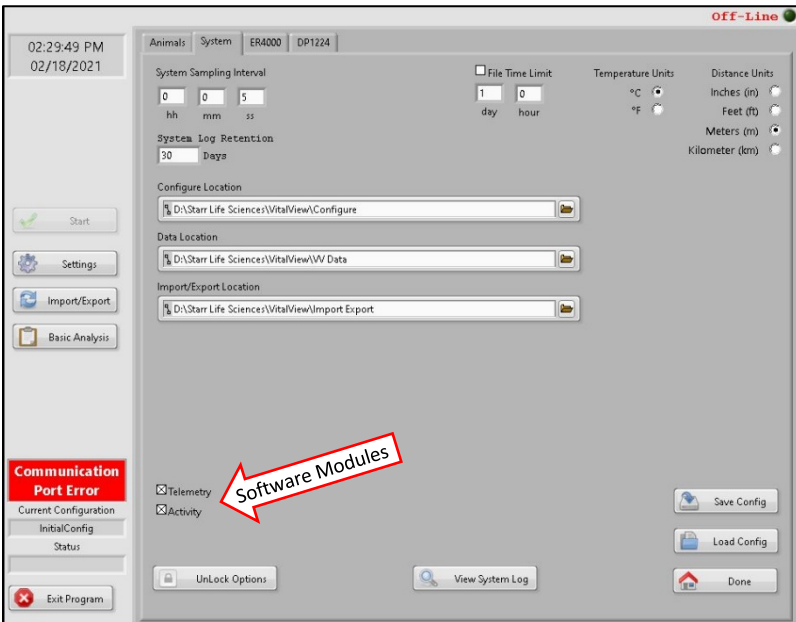

Fig 2-8
2. Click Settings button → “System” tab - Figure 2-8 should appear.